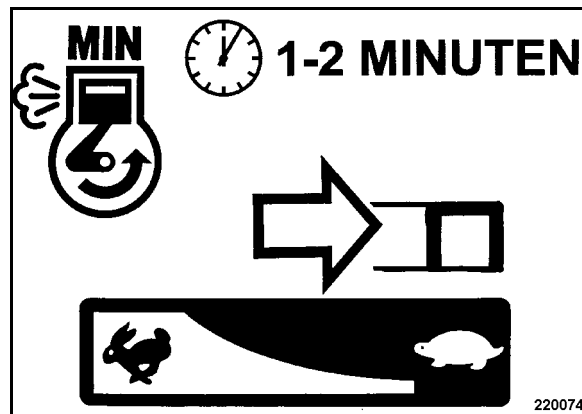

Fig. 26
- Move the throttle lever (Fig. 26) back to idle speed position.